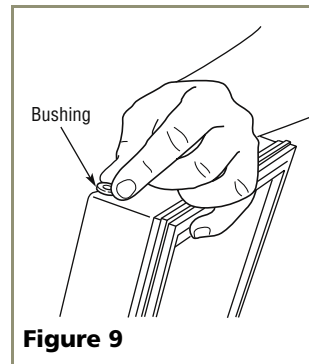

**Figure 7**
5. Remove bottom hinge from cabinet (four screws) and screws on opposite side of cabinet. See **Figure 7**.